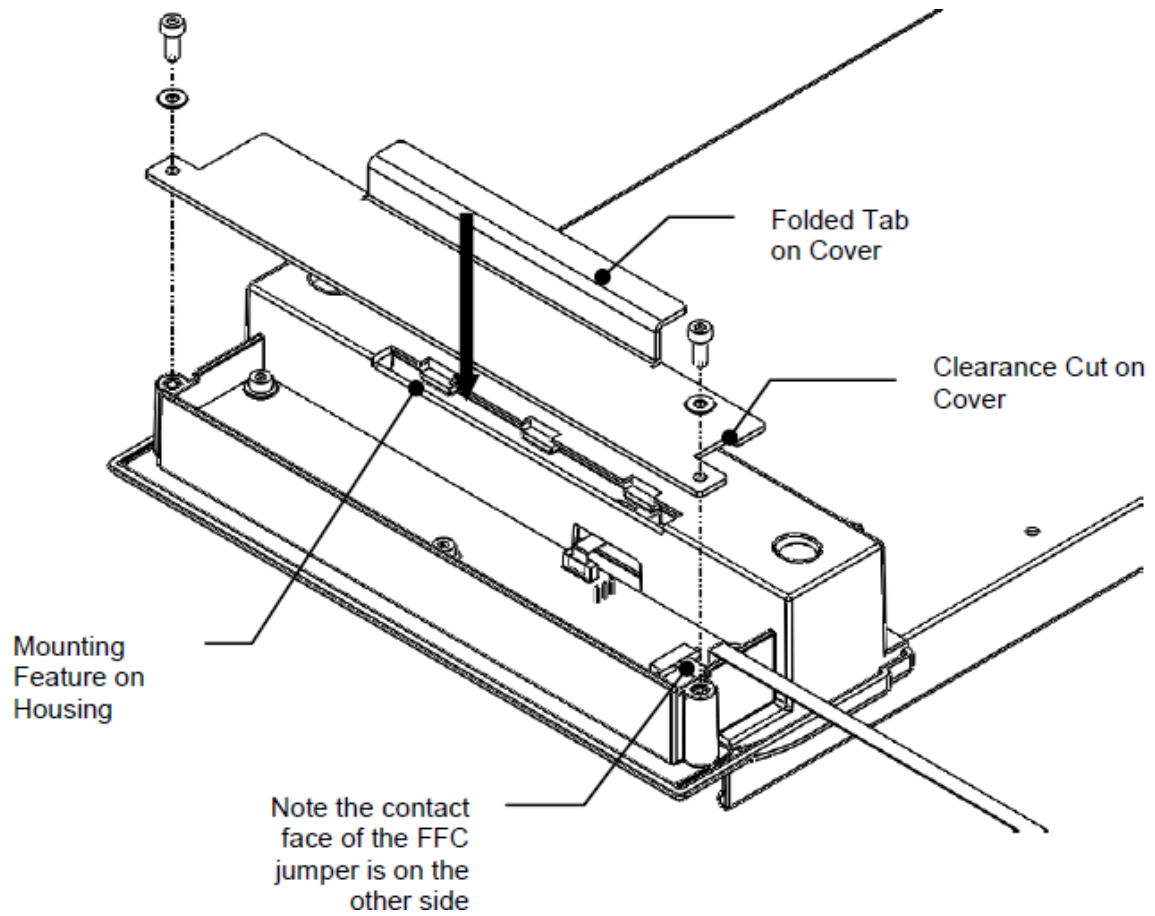

Figure L-4: Removing the Cover
2. The Magnetic Enclosure cover can be removed from the encoder housing by removing the 2 M3x6 Socket Head Cap Screws and washers (Figure L-4).